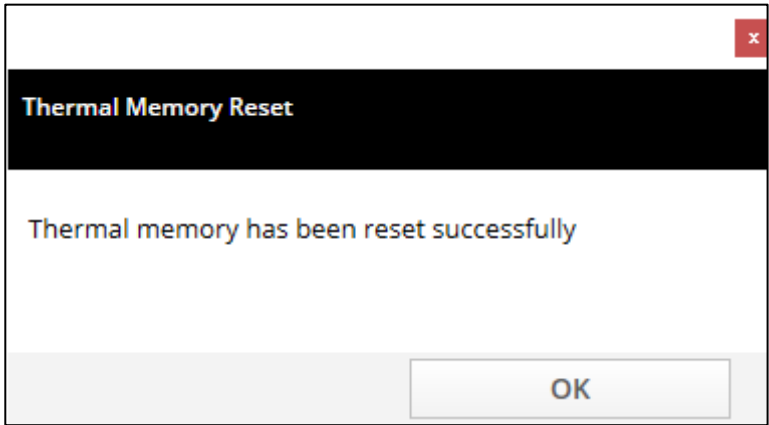

Figure 30: Pop-up for 'Thermal memory reset' success
**Thermal Memory Reset:** This button is available only for Power Defense devices. This option resets the Ground Fault and Long Delay Thermal memory from the device. If the user clicks on this button, then on successful thermal memory reset, Pop-up in Figure 30 is displayed.